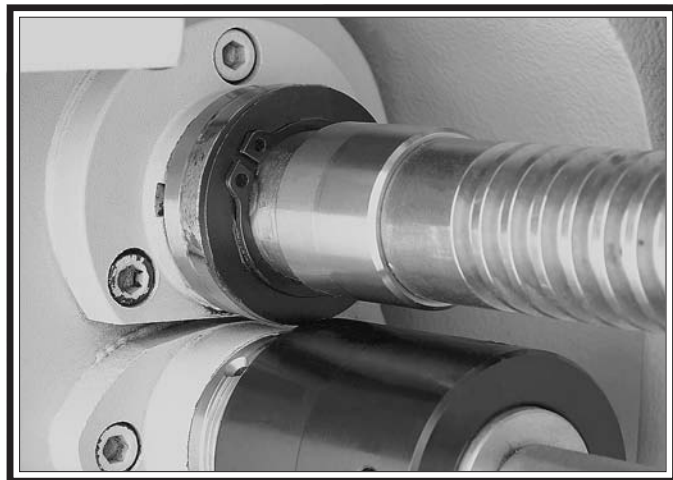

Figure 135. Retaining ring positioned with ears in front of pin access groove.
10. Return the retaining ring against the shroud washer and position the retaining ring ears over the shear pin head, as shown in **Figure 135**. This will prevent the shear pin from falling out if the shroud washer should rotate during operation.